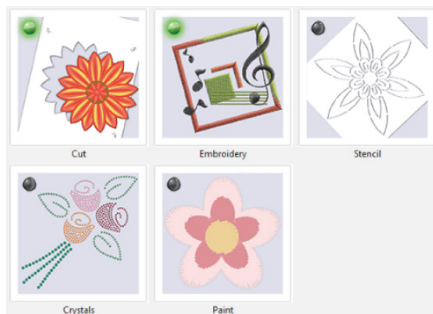

Fig. 17
2. Place a bullet in the **Cut** and **Embroidery** technique options. Remove the bullets from all other techniques. Click <Next> (See Fig. 17).